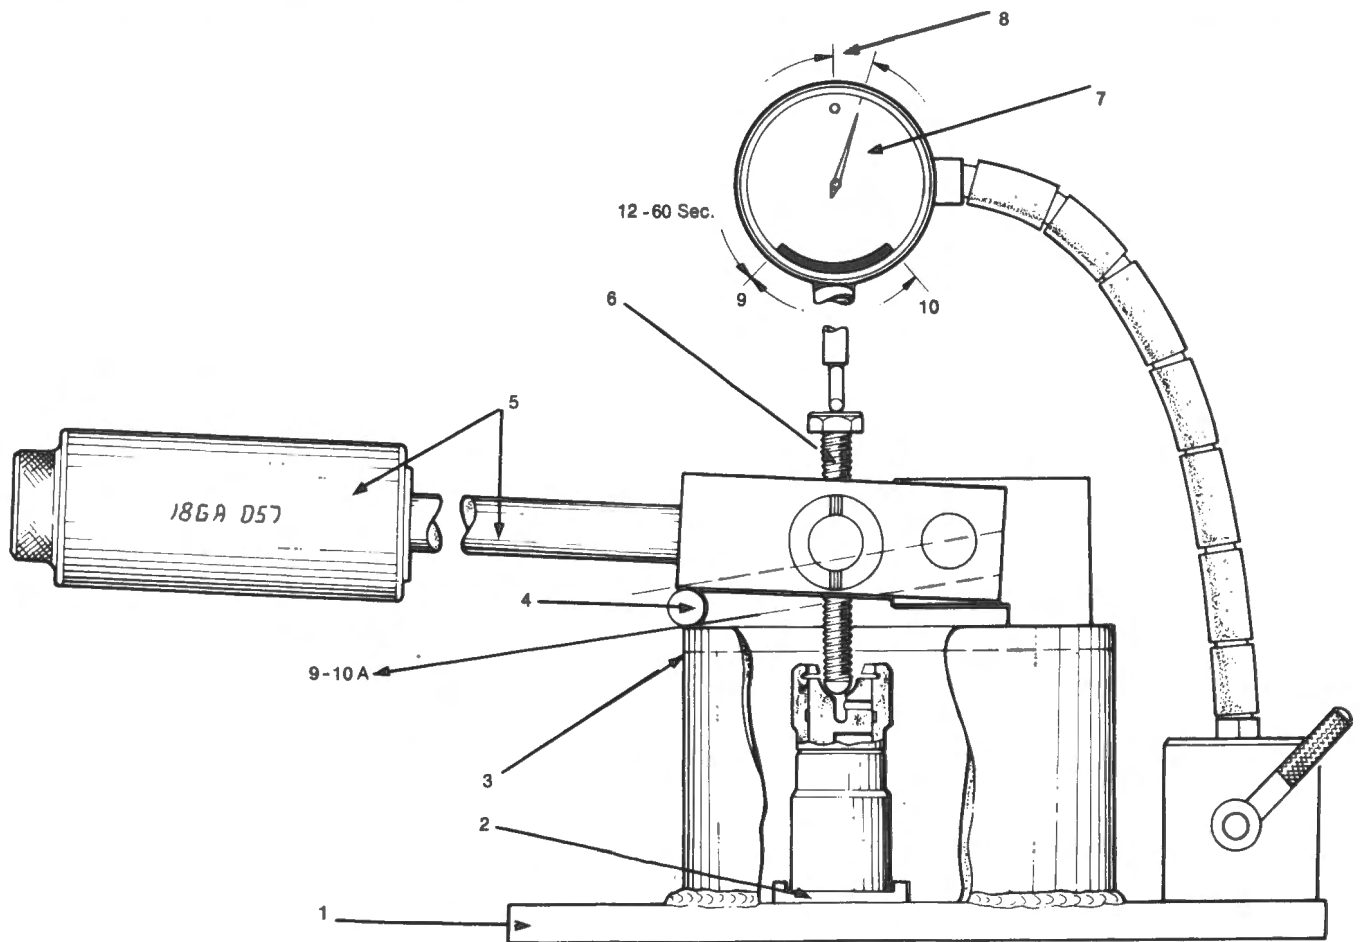

Fig. D-42
- 4 Place a 8 mm (5/16 in) bar between the reservoir outer edge and the arm of the test fixture as shown in Fig. D-42.
- 6 Position a dial indicator over the forcing bolt so that a downward travel in excess of 5 mm (0.200 in) will register. Fig. D-42.